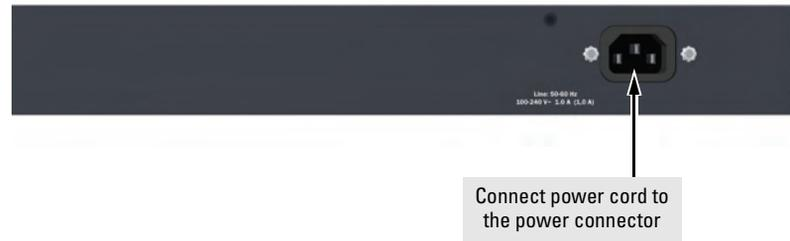

Figure 2-3. Connecting the power cord
1. Plug the included power cord into the switch's power connector (refer to Figure 2-3, "Connecting the power cord" on page 2-9") and into a nearby AC power source.